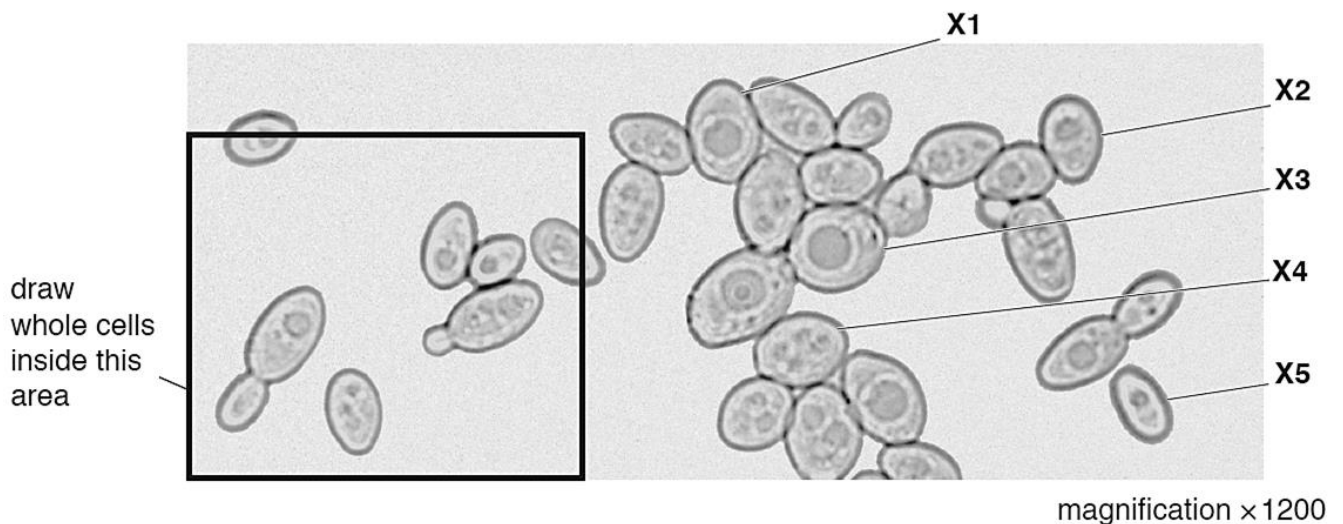

Fig. 2.1
Fig. 2.1 is a photomicrograph of yeast cells.
- (b) (i) Make a large drawing of the whole cells shown in the area on Fig. 2.1.